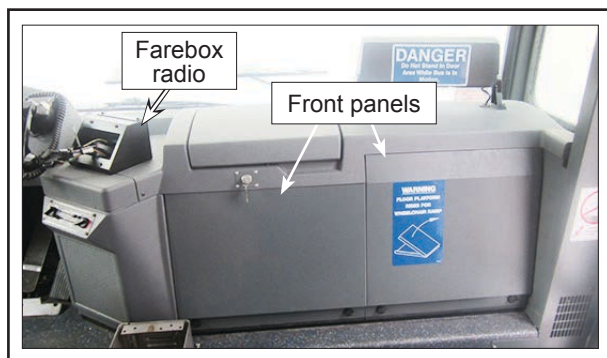

Figure 1 - Right side of the dash
- 1.1. Remove the two front panels. See Figure 1.